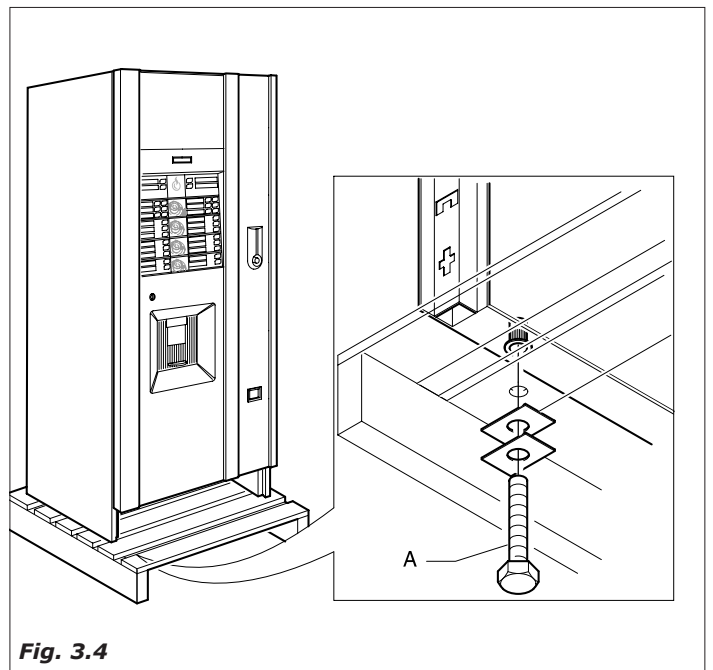

Fig. 3.4
- Remove the distributor from transport pallet, unscrewing the screws (A) that block the fixing cross staff heads to the pallet (Fig.3.4).